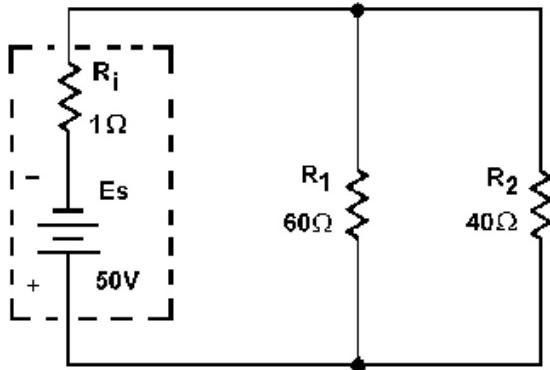

Figure 3-60.—Source resistance in a parallel circuit.
- Q44. What is the total resistance of the circuit shown in figure 3-60?*
- Q45. What effect does the internal resistance have on the rest of the circuit shown in figure 3-60?*